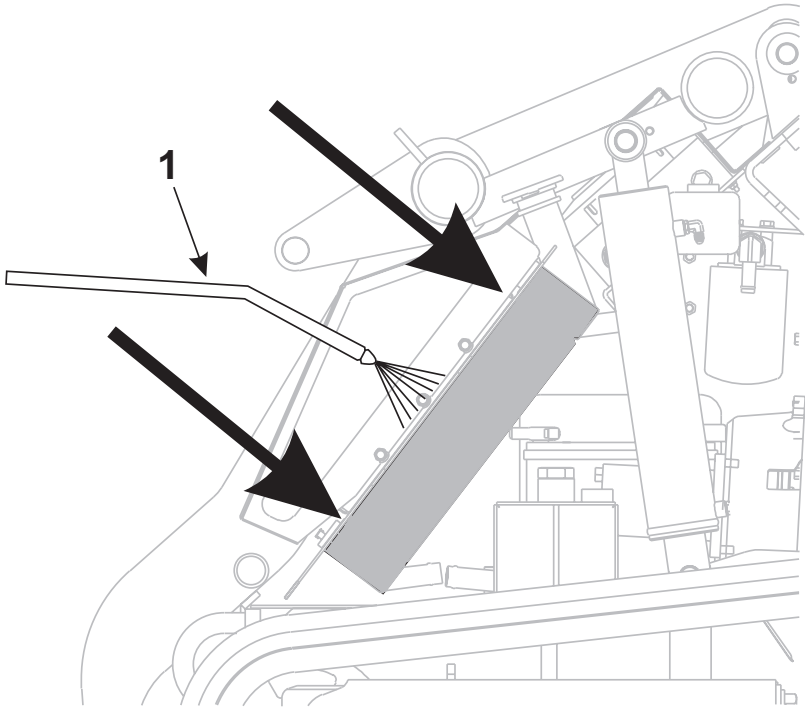

Figure 4-19 Clean Engine Radiator
- b. Using compressed air or a garden hose (Item 1, Figure 4-19), spray air (water) through the engine radiator from the outside to remove any built up dirt or debris on the inside surface of the engine radiator.